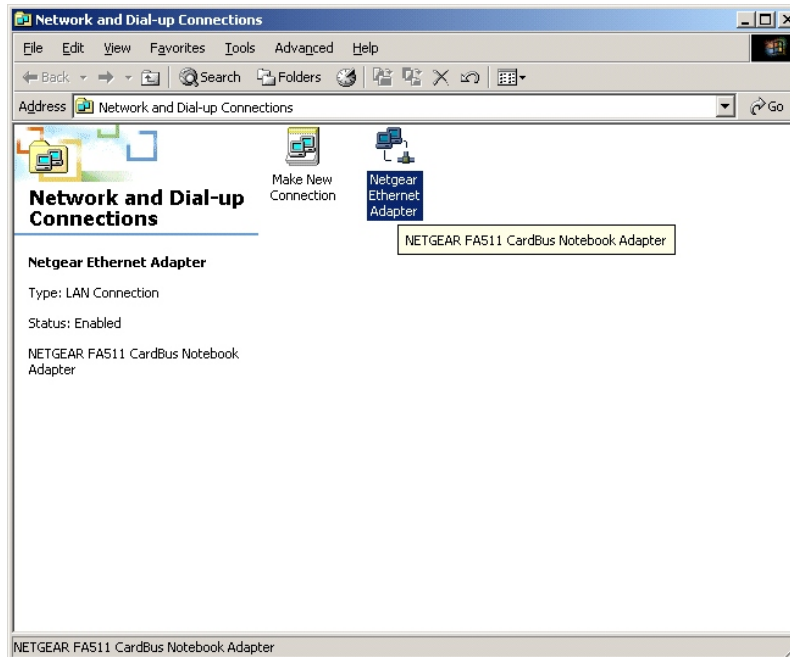

Figure A-1.2
2. Double click the icon for the **Ethernet Adapters** (see Figure A-1.2). In the below example the adapter is manufactured by **Netgear** and is a 10 Mbps ethernet local area network interface card. The Flash upload is transmitted through this card to the ASCA processor.